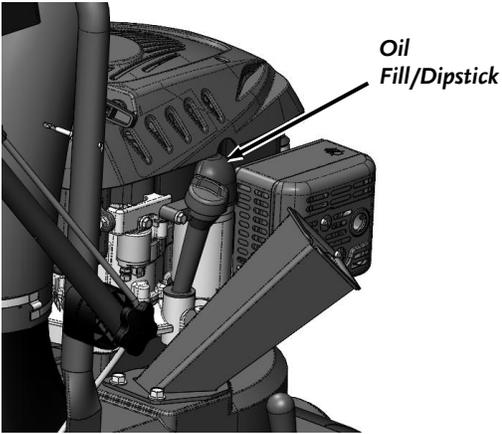

Figure 36
1. Remove the Engine Oil Fill/Dipstick. **(Figure 36).**